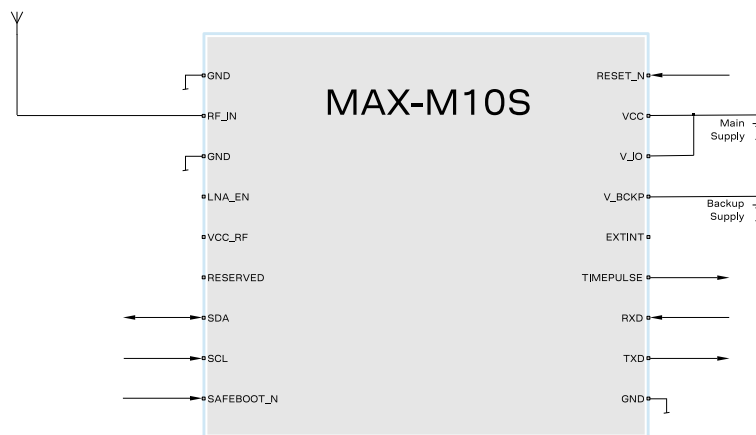

Figure 21: Typical MAX-M10S design
- VCC and V_{IO} must be connected together to a single supply as shown in Figure 21. Both hardware backup and software standby modes are supported.